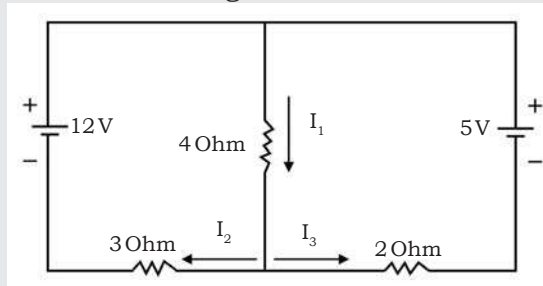

Fig.1
- Determine the current through each resistor in the circuit shown in Fig.1
- Verify Kirchhoff's law by observing the reading in ammeter and voltmeter as shown in Fig. 1.